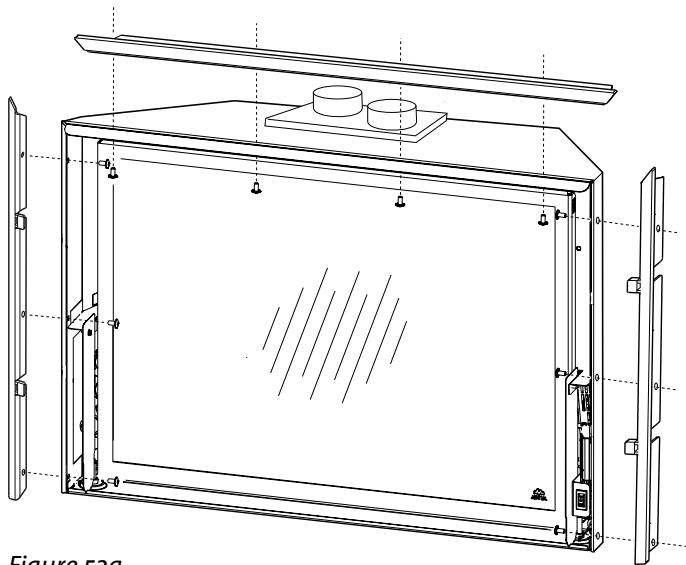

Figure 52a.
1. Attach each bracket using the 10 M6 x 8 phillips head screws provided, as shown in fig. 52a.